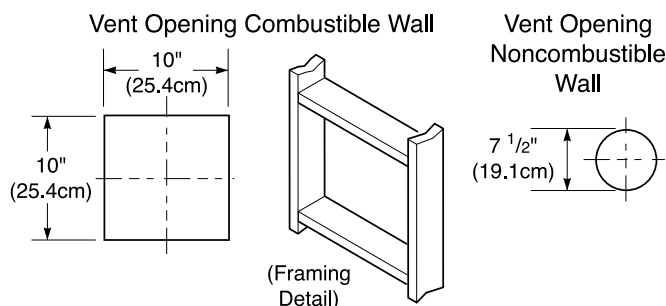
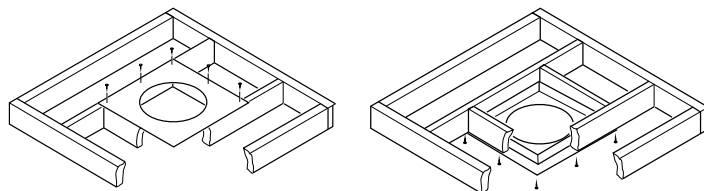

Figure 25 - Vent Opening Requirements
Figure 33 - Installing Firestop
For two-story applications, firestops are required at each floor level (see Figure 33, page 16). If an offset is needed in the attic, additional pipe and elbows will be required.
3. Attach vent pipe assembly to the burner system. Set stove in front of its permanent location to insure minimum clearances. Mark the wall for a 10" (25.4cm) square hole (for noncombustible material such as masonry block or concrete, a 7 1/2" (19.1cm) diameter hole is acceptable). See Figure 25. The center of the hole should line up with the center-line of the horizontal rigid vent pipe. Cut a 10"x10" (25.4cm x 25.4cm) square hole through combustible exterior wall (7 1/2" [19.1cm] diameter hole if noncombustible). Frame as necessary (see Figure 25).
1. Cut a 10" (25.4cm) square hole in the ceiling using the locating hole as a center point. The opening should be framed to 10"x10" (25.4cm x 25.4cm) inside dimensions, as shown in Figure 25 on page 14 using framing lumber the same size as the ceiling joists. If the area above the ceiling is an insulated ceiling or a room, nail firestop from the top side. This prevents loose insulation from falling into the required clearance space. Otherwise, install firestop below the framed hole. The firestop should be installed with no less than three nails per side (see Figure 33).
3. Cut a hole in the roof using the locating hole as a center point. (Cover any exposed open vent pipes before cutting hole in roof.) The 10"x10" (25.4cm x 25.4cm) hole must be measured on the horizontal; actual length may be larger depending on the pitch of the roof. There must be a 1" clearance from the vent pipe to combustible materials. Frame the opening as shown in Figure 25 on page 14.